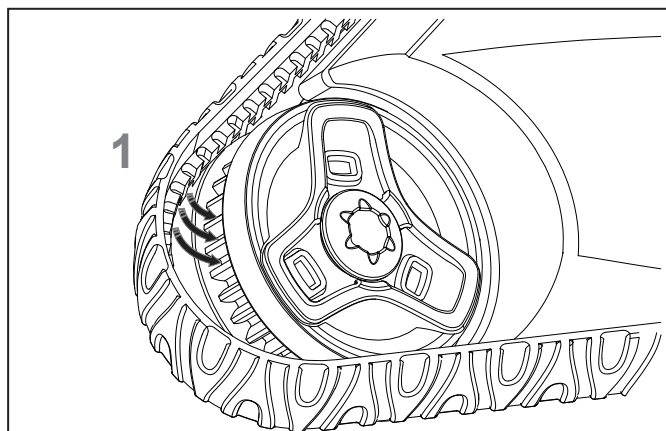

Figure 21. Position Track into Wheel Grooves
- To install a new track, place the inside rib of the track into the groove in the first wheel. See Figure 21.